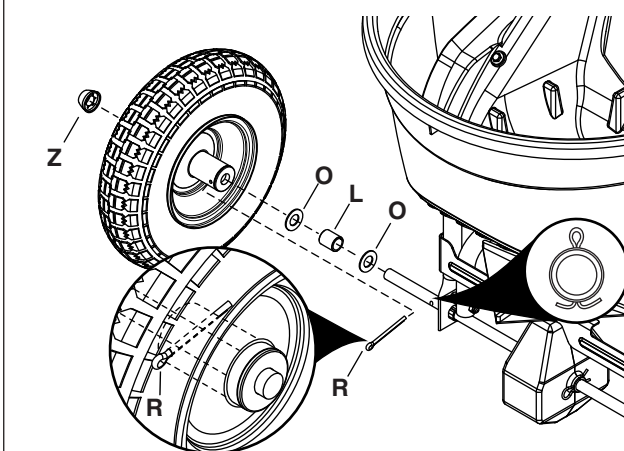

Figure 14
STEP 15: (SEE FIGURE 14)
- Slide a 5/8" washer (O), a spacer (L), a 5/8" washer (O) and a wheel onto the end of the axle with a hole.
- **Insert a 3/16" x 2" cotter pin (R) into the wheel stud and out through the other end. Spread both ends of the cotter pin.**
- Carefully hammer a hub cap (Z) onto the axle.